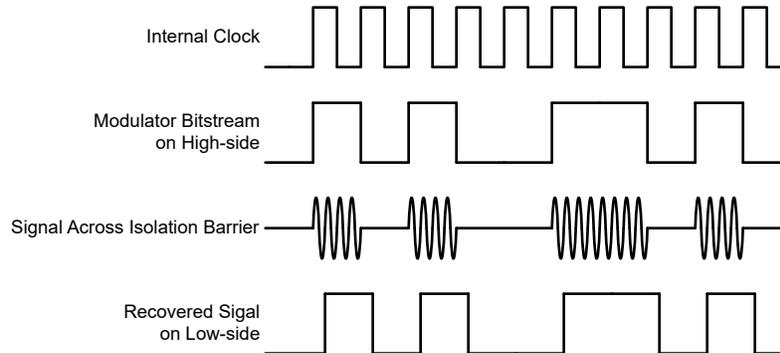

图 7-1. OOK-Based Modulation Scheme
The AMC1411 uses an on-off keying (OOK) modulation scheme, as shown in 图 7-1, to transmit the modulator output bitstream across the SiO₂-based isolation barrier. The transmit driver (TX) shown in the Functional Block Diagram transmits an internally-generated, high-frequency carrier across the isolation barrier to represent a digital *one* and does not send a signal to represent a digital *zero*. The nominal frequency of the carrier used inside the AMC1411 is 480 MHz.